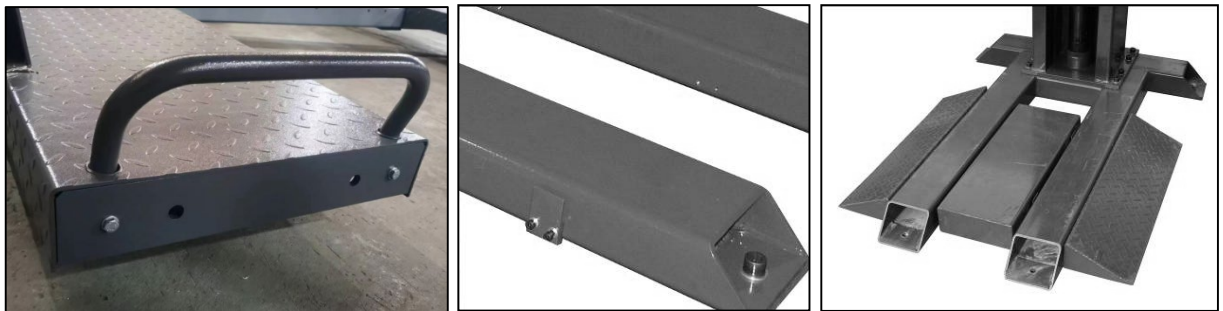

Figure: 11, 12, 13 Roll-off protection and drive-over ramp
- 13) Attach the roll-off protection to the end of the carriageway (Fig. 11). Screw the fastening chip of the drive-over ramp to the base plate. Then attach the drive-over ramps and the centre bar. (Fig. 12, 13)